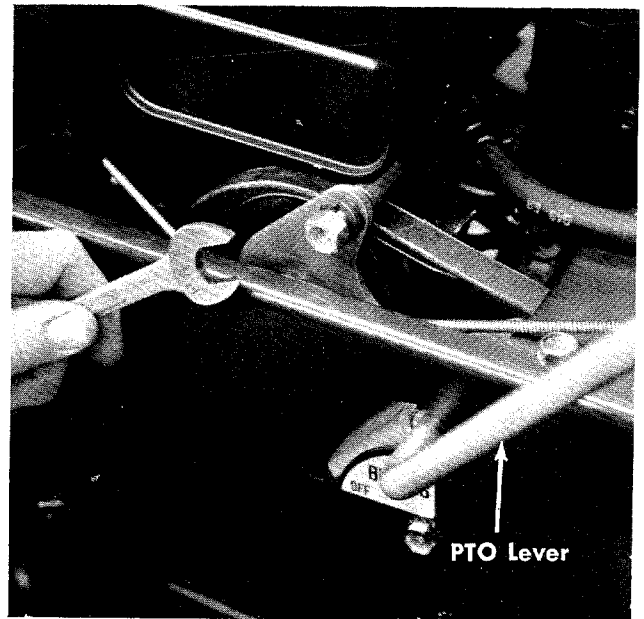

FIGURE 12 IDLER BELT GUARD
- m. Move the PTO lever to the ON position and reassemble the idler belt guard. See figure 12.